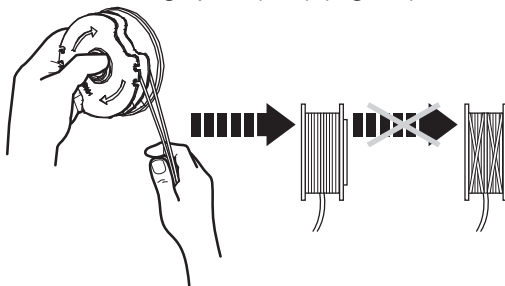

Fig. 20
7. Wind all the trimming lines firmly around the trimming spool (10c) in direction of the arrows on the trimming spool (10c) (Fig. 20).